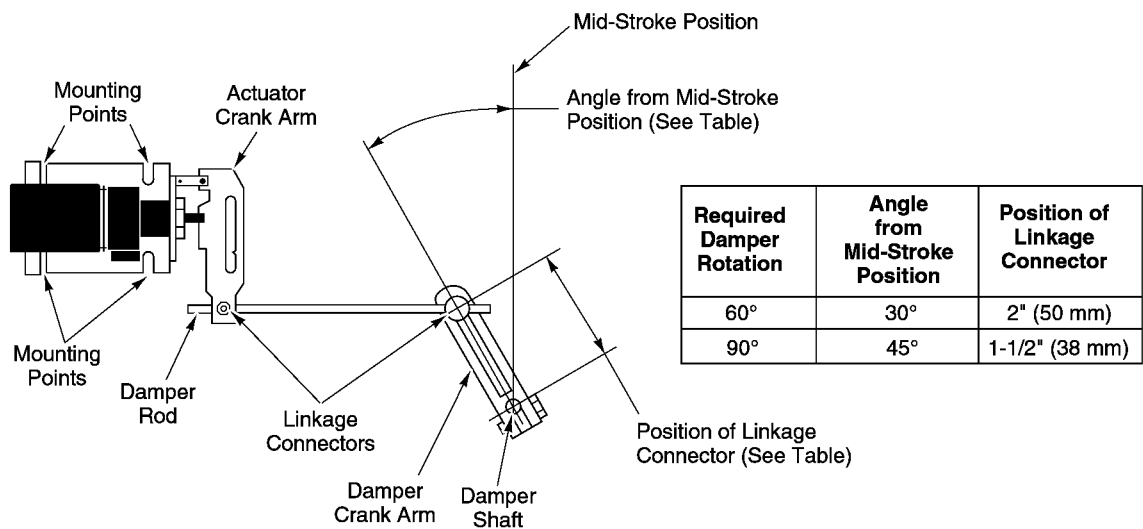

Figure-15 Recommended Actuator/Damper Mounting.
- b. Be sure to allow adequate working space around the actuator mounting location to mount the actuator, link it to the damper, and wire it into the system (refer to Figure-15).
- c. If possible, select a mounting position such that, at mid-stroke, the actuator crank arm and the damper crank arm on the drive shaft are each at a 90° angle to the damper rod (refer to Figure-15). This is the recommended mounting position. It may be necessary to swivel the actuator linkage to arrive at this mounting location.
- Position the actuator on the duct and mark the location of the mounting holes, using the actuator mounting bracket as a template. Refer to Figure-15.